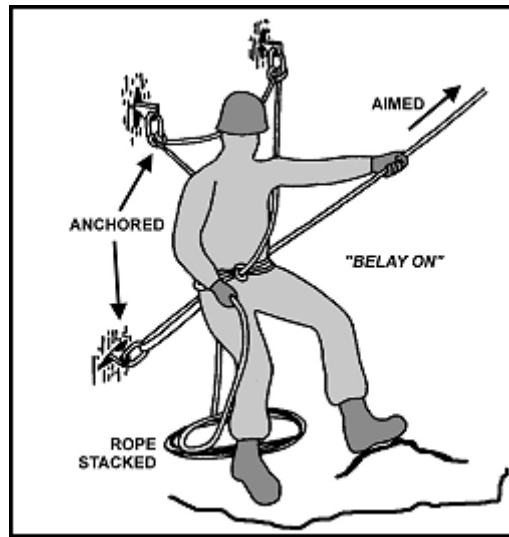

Figure 6-28. Belay setup.
(1) The belayer should make one quick, final inspection of his belay. If the belay is set up correctly, the anchor attachments, guide carabiner if applicable, and the rope running to the climber will all be on the "guide hand" side, which is normally closest to the rock (Figure 6-28). If the climber takes a fall, the force, if any, should not have any negative effect on the belayer's involvement in the system. The brake hand is out away from the slope where it won't be jammed between the body and the rock. The guide hand can be placed on the rock to help support the stance when applying the brake.